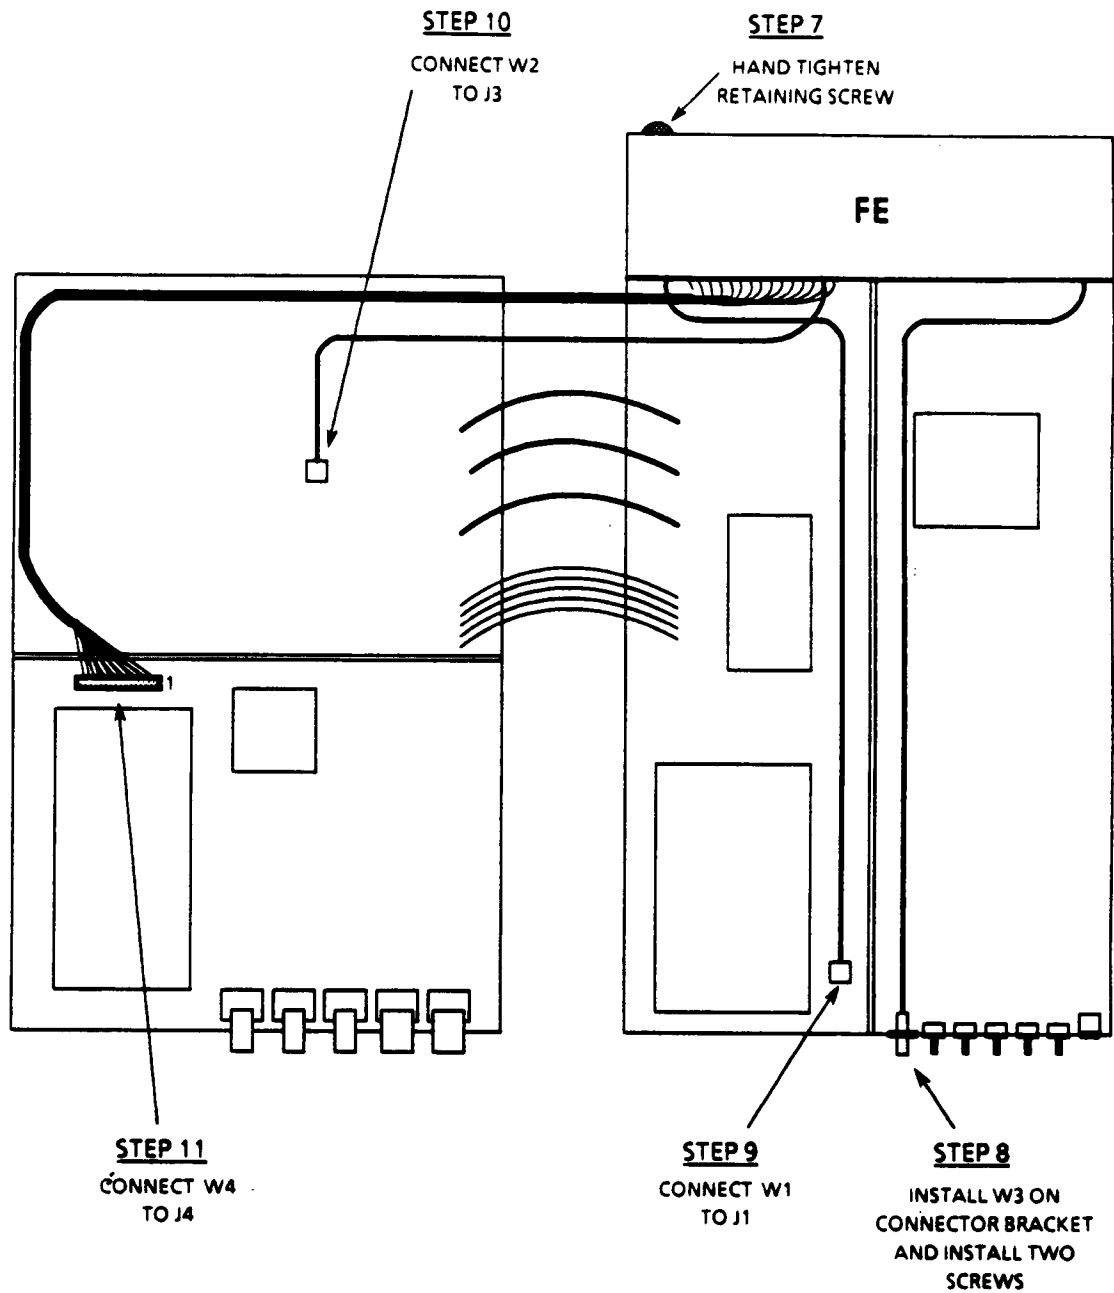

Figure C-4. Installing the FE and Connecting the Cables
7. Referring to Figure C-4, align the FE with the rear top half of the Miniceptor and hand tighten the retaining screw of the FE into the Miniceptor's chassis.